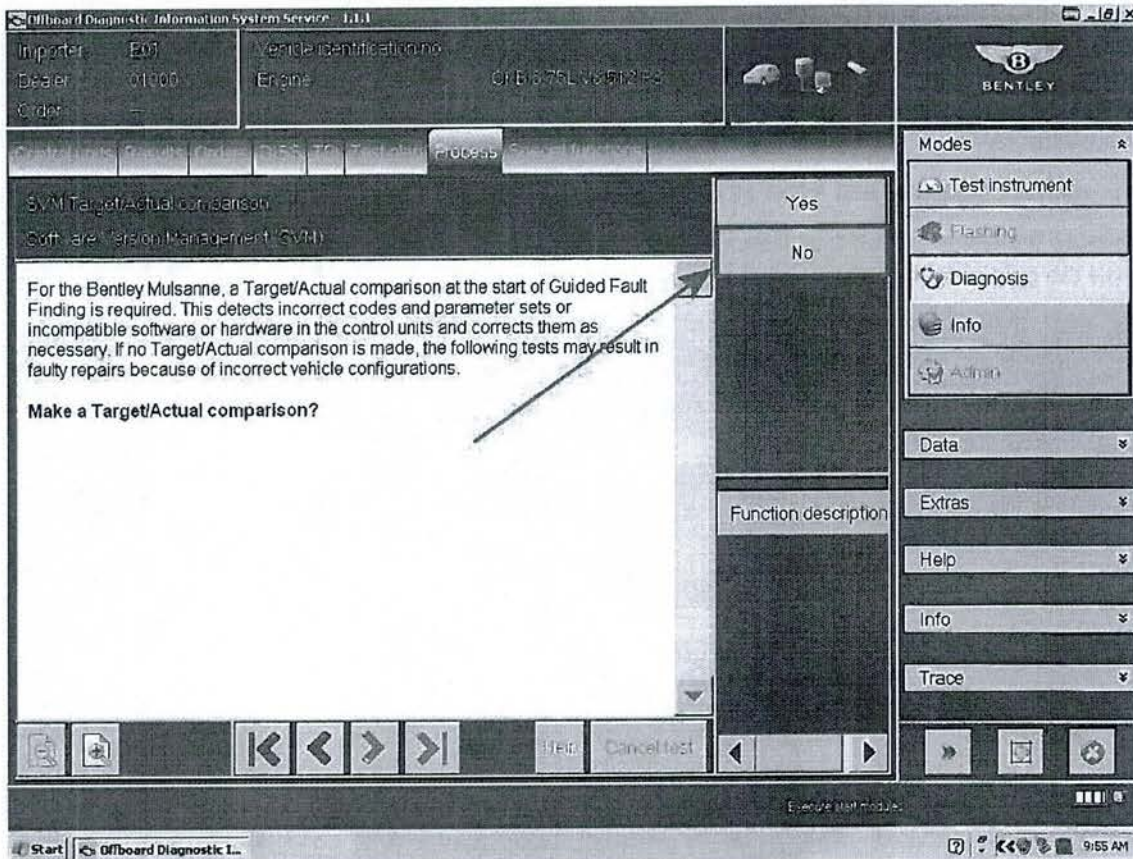

Figure 4
**IMPORTANT:** When requested to Make an SVM Target/ Actual comparison please select No (Figure 4)